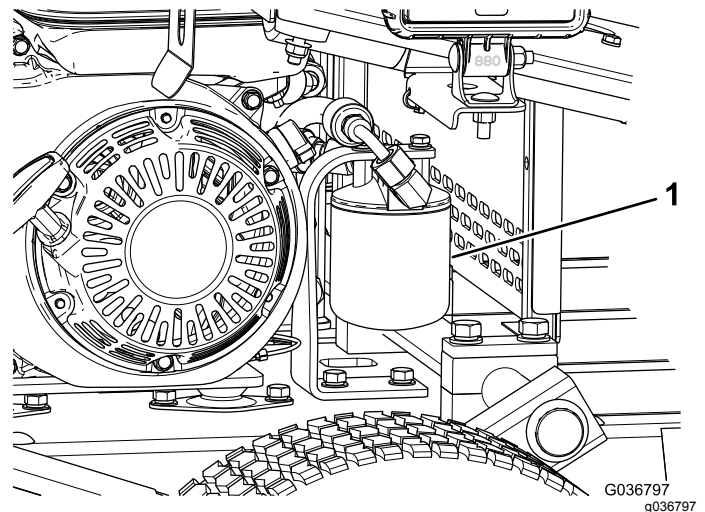

Figure 36
5. Place a drain pan under the filter and remove the filter (Figure 36).